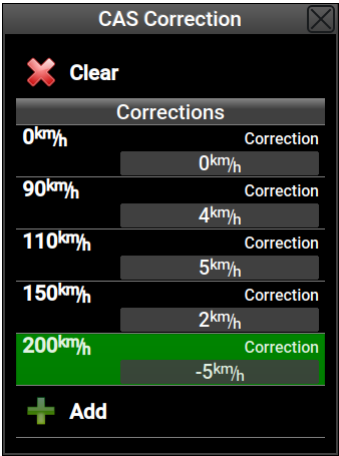

Figure 4.28: An example of the CAS correction table.
2. Enter points as shown in the Figure 4.28.